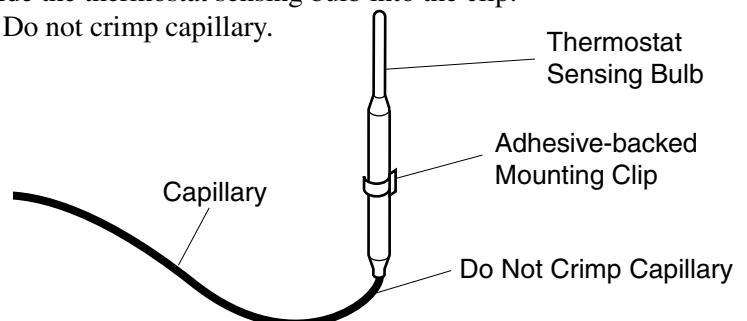

Figure 34 - Positioning the Thermostat Sensing Bulb in the Vertical Position with the Capillary at the Bottom
5. The mounting clip must be a minimum of 3" from bottom of fireplace to prevent crimping of capillary. Once you have decided on a location, clean the area thoroughly. Remove the paper backing from the adhesive on back of mounting clip. Press the clip into the new location so that the thermostat sensing bulb will be positioned vertically with the capillary at the bottom (see Figure 34). Slide the thermostat sensing bulb into the clip.